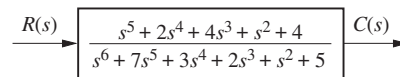

FIGURE P2.1
10. Write the differential equation for the system shown in Figure P2.1. [Section: 2.3]